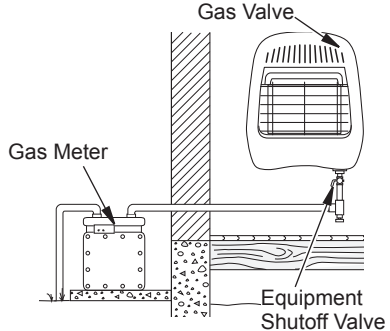
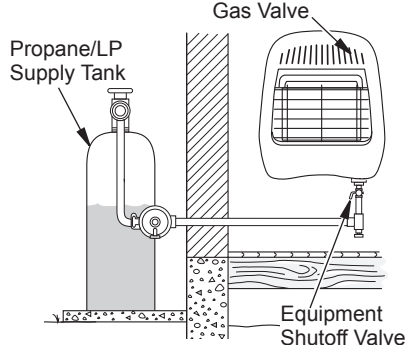

Figure 17 - Natural Gas Supply
Figure 18 - Propane/LP Fuel Supply
3. Check all joints from gas meter (natural gas installations, see Figure 17) or from propane/LP tank (propane/LP gas installations, see Figure 18) to equipment shutoff valve. Apply a noncorrosive leak detection fluid to all joints. If bubbles form, there is a leak.